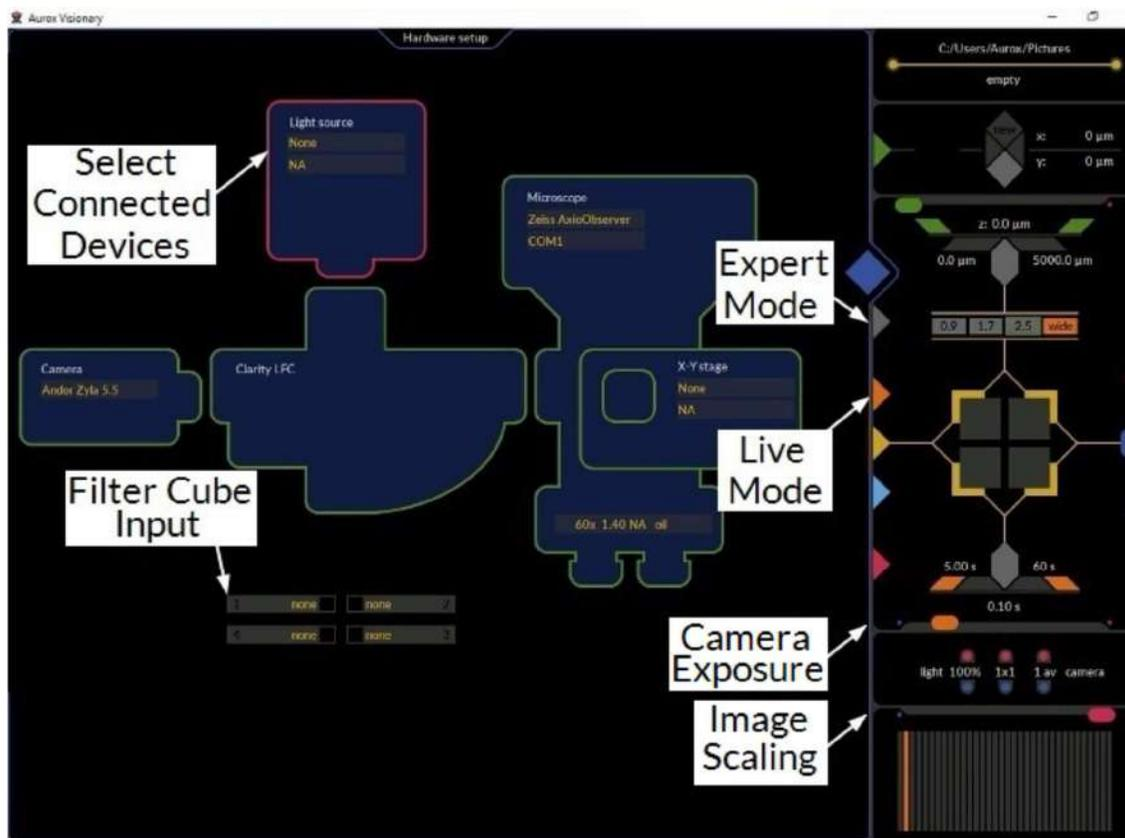

Figure 5.4.8 Visionary Hardware Set up Screen
2. Run Visionary by double clicking the desktop icon. The software will open in the Hardware Setup Screen as shown in Figure 5.4.8